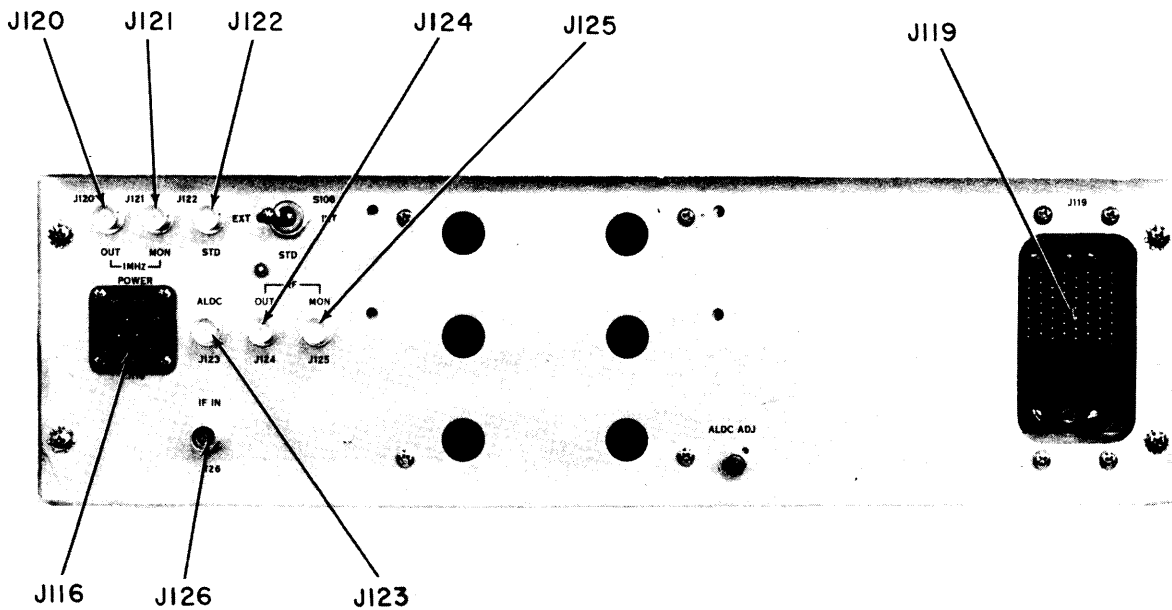
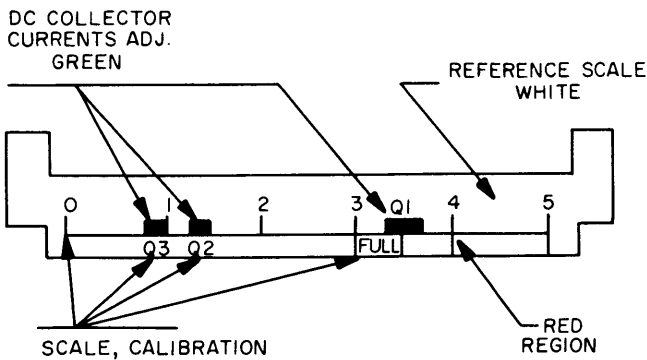

Figure 2-2. Rear Panel Connectors
Figure 2-3. Front Panel Monitor Indicator
All electrical connections between the CHG()-4 and associated equipment are made at the rear of the unit. Figure 2-2 illustrates all rear panel connections, while table 2-1 lists the panel designation and function of each connection.
2-5. INITIAL CHECKOUT PROCEDURE (See figures 2-2 and 2-3.)
- a. Set ON/STANDBY switch (7) to STANDBY position. STANDBY indicator (5) shall illuminate amber.
- b. Using the six frequency selector switches (8), establish the desired rf.
- c. On rear panel, set STD-INT/EXT switch (9) to INT position.
d. Set ON/STANDBY switch (7) to ON position. STANDBY indicator (5) shall extinguish, and POWER indicator (6) shall illuminate red.
e. Set METER switch (2) to Q1 position. MONITOR meter (3) shall indicate in the green region marked Q1. (See figure 2-3.)
f. Set METER switch (2) to Q2 position. MONITOR meter (3) shall indicate in the green region marked Q2. (See figure 2-3.)
g. Set METER switch (2) to Q3 position. MONITOR meter (3) shall indicate in the green region marked Q3. (See figure 2-3.)
h. Set METER switch (2) to RF position. MONITOR meter (3) shall indicate zero with RF OUTPUT control fully counterclockwise.
j. Connect a VTVM (Hewlett-Packard Model 410B, or equivalent) to RF OUT jack J124 (figure 2-2) across a 50-ohm load resistor. Adjust RF OUTPUT control (1) until VTVM indicates 7.0 volts.
k. Remove VTVM and connect oscilloscope (Tektronix Model 545, or equivalent) to RF OUT jack J124 (figure 2-2). Displayed waveform shall be a sharp undistorted sinewave with no modulation signal appearing on any part of the oscilloscope's time/cm scale.
a. Connect source of 115 vac, single phase power to POWER receptacle J116 (figure 2-2). Observe that STANDBY indicator (5, figure 3-1) illuminates amber.
b. Set RF OUTPUT control fully CCW. Make necessary interface connections on rear panel jacks. (See figure 2-2.)
c. Using six frequency selector switches (8), establish the desired rf operating frequency as displayed in the frequency readout windows.
d. Set METER switch (2) to the circuit function to be monitored on MONITOR meter (3).
e. Set ON/STANDBY switch (7) to ON. Observe that STANDBY indicator (5) extinguishes and POWER indicator (6) illuminates red.